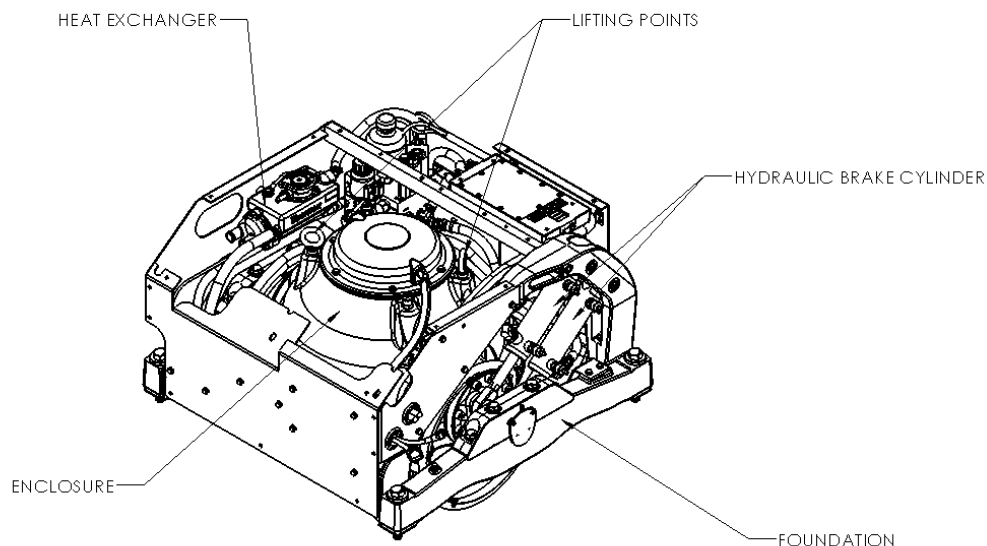

FIGURE 1 – SEAKEEPER 3
- While handling / installing the Seakeeper assembly, protect exposed hydraulic brake cylinder rods (See Figure 1) from scratches or damage as this could lead to premature seal failure and oil leaks.